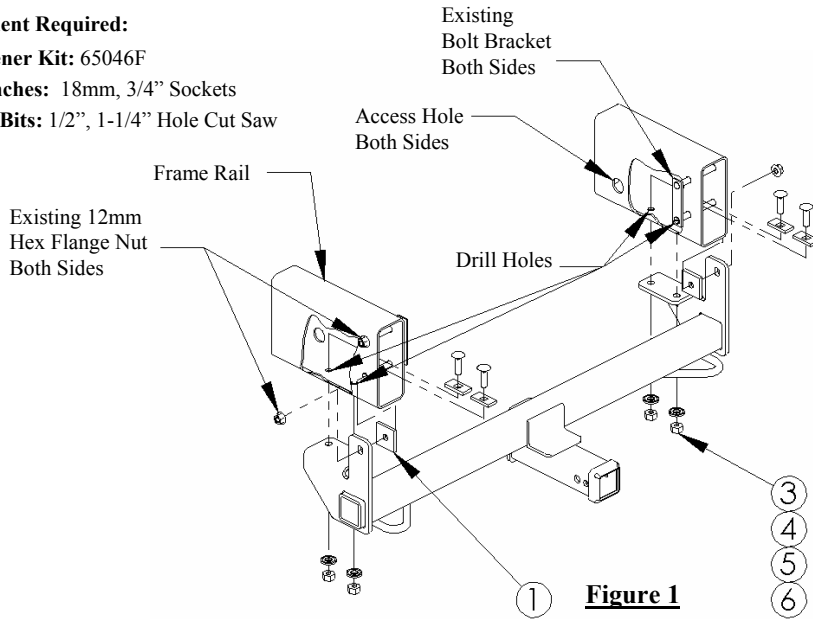
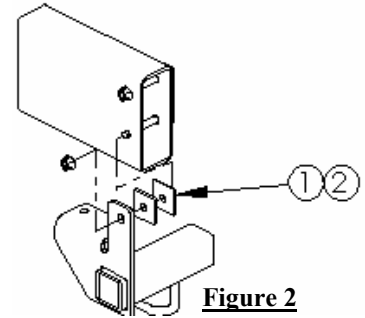

Figure 1
Figure 2
①	Qty. (2)	Spacer, 2" x 2" x 1/4"	⑤	Qty. (4)	Conical Washer, 1/2"
②	Qty. (2)	Spacer, 1.88" sq. x .179"	⑥	Qty. (4)	Hex Nut, 1/2"
③	Qty. (4)	Carriage Bolt, 1/2" X 1-1/2"	⑦	Qty. (2)	Pull Wire
④	Qty. (4)	Spacer, 1" x 2" x 1/4"
1. Support the front bumper during this operation. Loosen four 12mm hex nuts, two on each side, holding the bolt brackets onto the frame as shown in **Figure 1**. Remove the bottom nuts completely and back out bolt brackets without completely removing them.
2. Place spacers (1) over lower bolts on bolt brackets on each side of the frame and raise the hitch into position as show in **Figure 1**. In the case where the vehicle does not have tow loops, use the optional spacers (2) as shown in **Figure 2**.